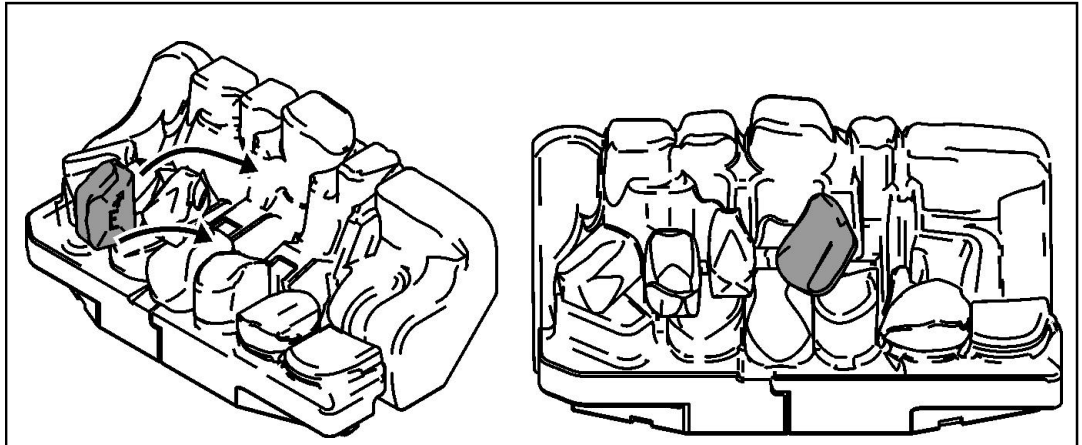

Figure 7. Second row "Coal E"
**9.** Hold coal 'E' upright with the arrow pointing to the top. Locate coal 'E' as shown in figure 7.